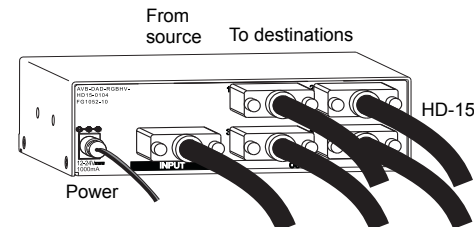

FIG. 3 Attach HD-15 input & output connectors and power
1. Fasten HD-15 connectors onto HD-15 receptacles on the module (FIG. 3).